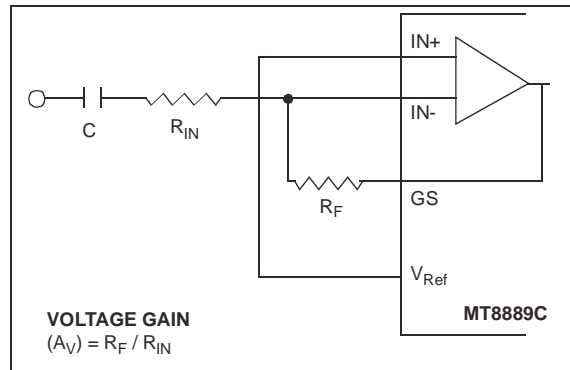

Figure 3 - Single-Ended Input Configuration
The input arrangement of the MT8889C provides a differential-input operational amplifier as well as a bias source (V_{Ref}), which is used to bias the inputs at $V_{\text{DD}}/2$. Provision is made for connection of a feedback resistor to the op-amp output (GS) for gain adjustment. In a single-ended configuration, the input pins are connected as shown in Figure 3.